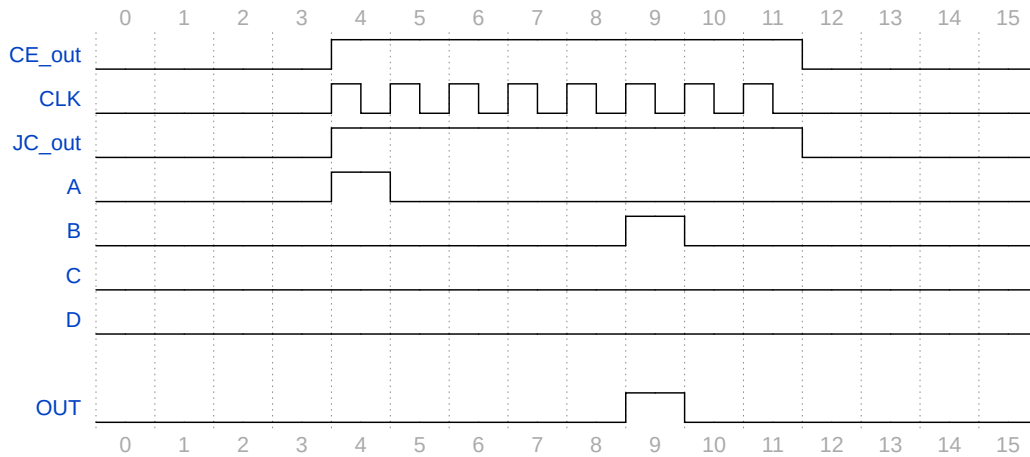

Figure 14: A timing diagram corresponding to Fig. 13.
13 contains one possible design. The JC component stands for Johnson counter. Suppose it has 8 bits. If we clock it at 80 MHz, then the basic pulse output will have 100 ns width. We have $100/8 = 12.5$ ns per clock cycle, so $f = 1/12.5$ GHz, which is 0.08 GHz or 80 MHz. When any one of the four digital inputs goes high, it will trigger the Clock Enable (CE) via an OR gate. The clock enabler, or clock generator, is a counter that turns on at some frequency (80 MHz in this case) when enabled, and switches off when disabled. The digital inputs A-D are OR'd with the Johnson counter output. This means that if another digital signal goes high when the Johnson counter is high, then the AND gate will raise the output high. Whenever the Johnson counter recycles, the output will go low. The active low disable on the clock enable (CE) will shut off the clock, and stop the Johnson counter. Any new incoming signal A-D will override this and restart the Johnson counter. An example timing diagram is given in Fig. 14 below.